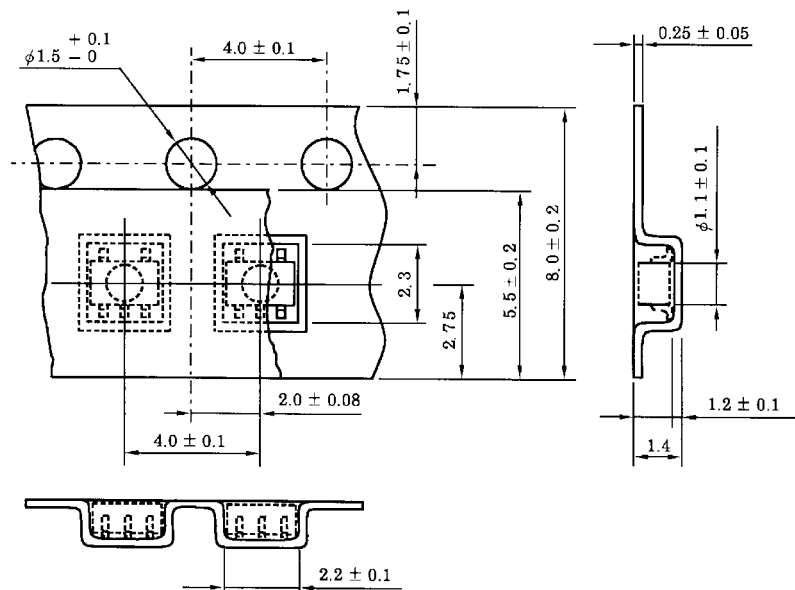

Figure 1
- 2.3 The tape dimensions are per Figure 1.